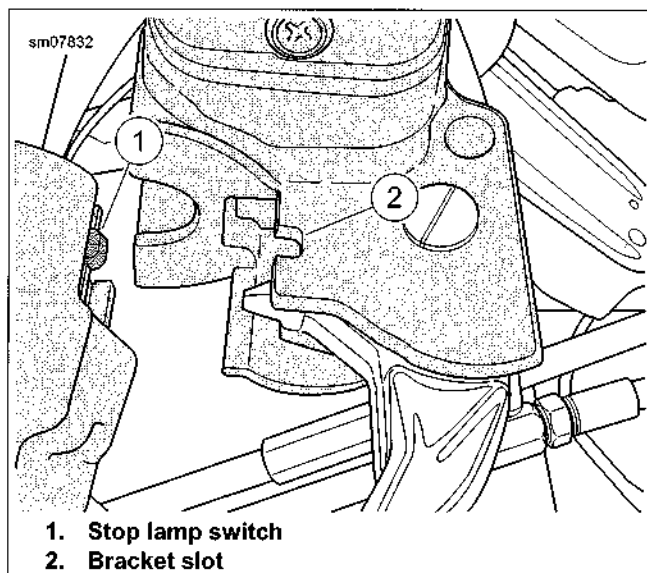

Figure 2-54. Brake Lever Bracket to Switch Housings
3. See Figure 2-54. Engage tab of stop lamp switch (1) on lower switch housing in slot (2) at top of brake lever bracket.